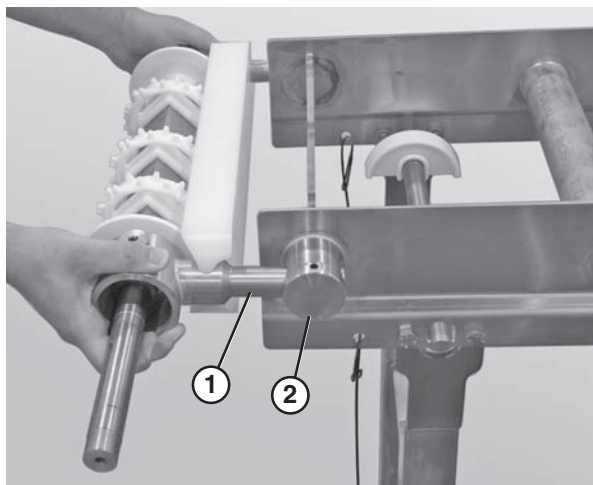

Figure 12
1. Slide the bearing shafts (Figure 12, item 1) into the take up blocks (Figure 12, item 2).